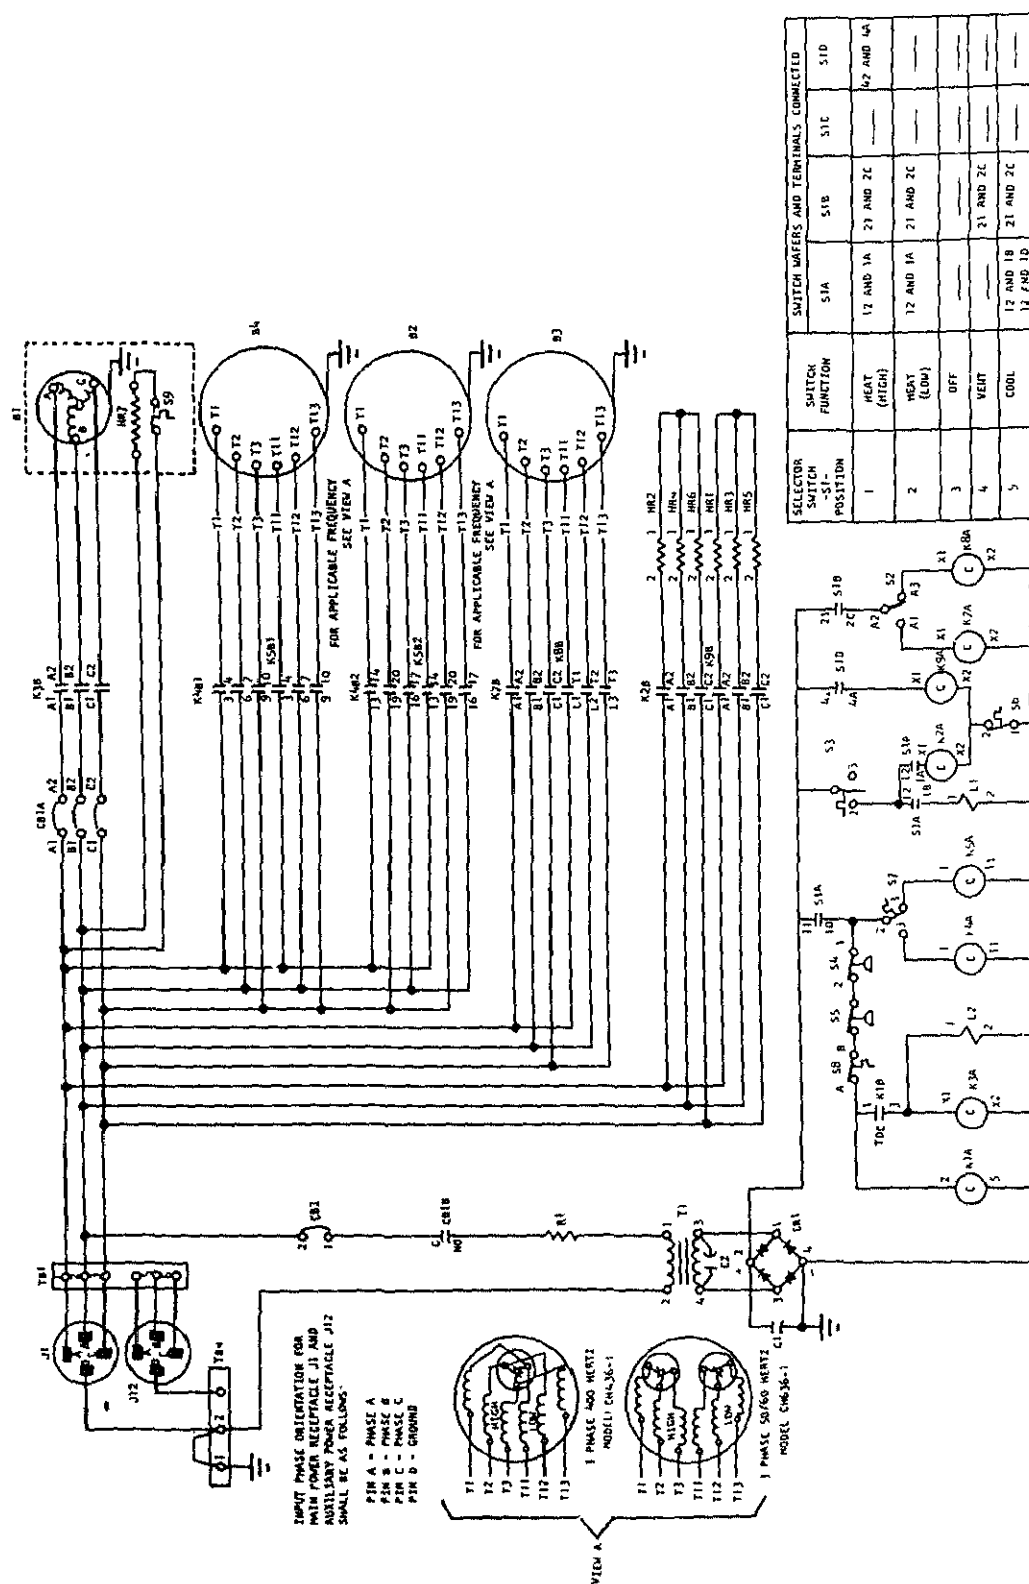
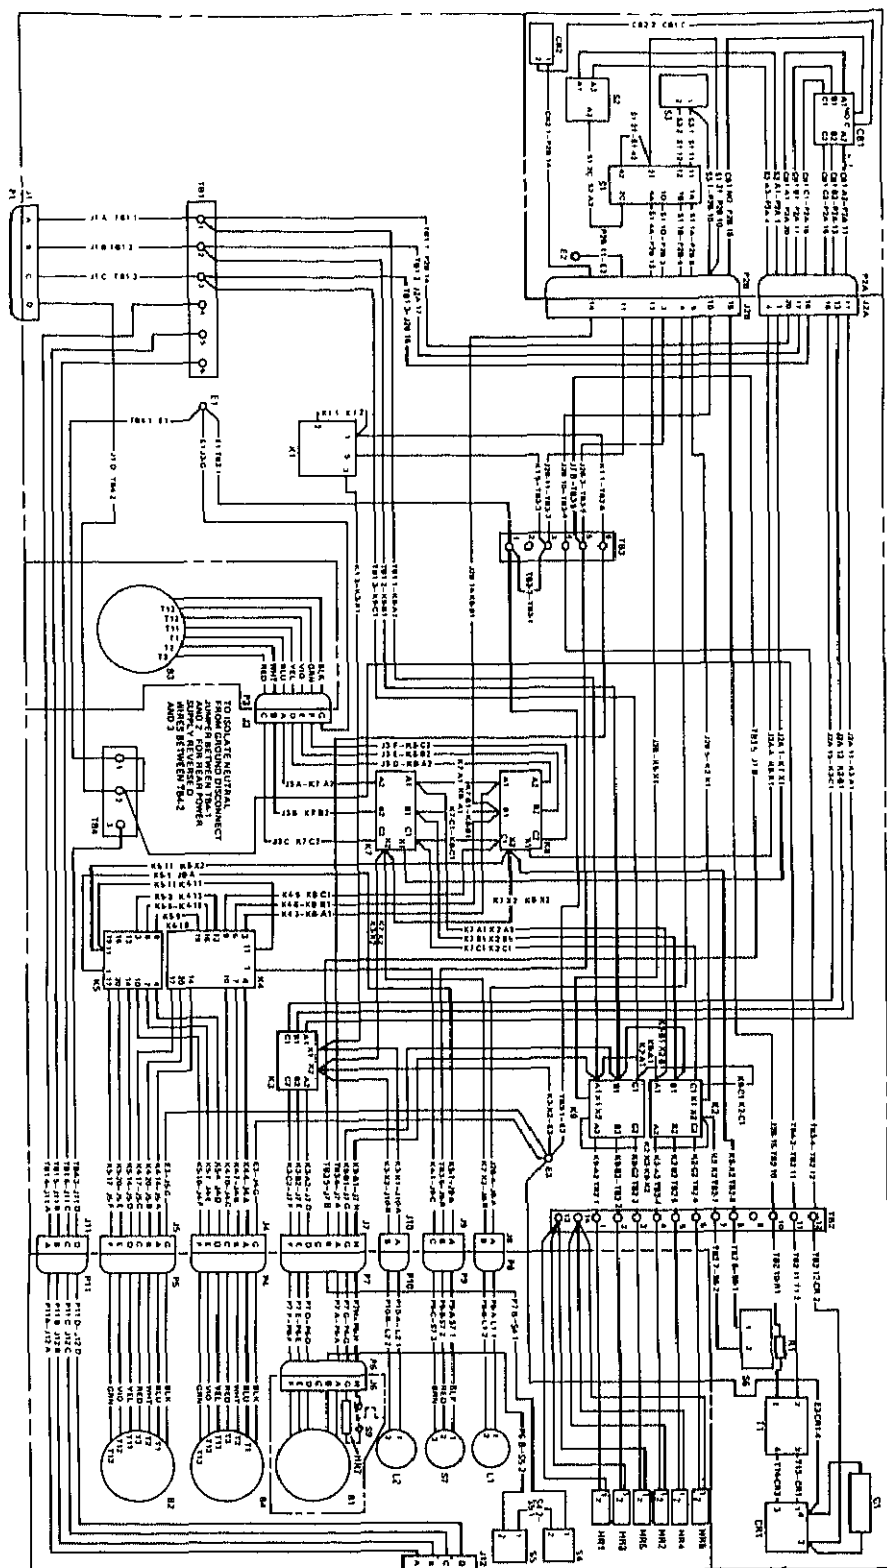

Figure 1-4. Control system schematic diagram
Figure 1-5. Wiring diagram
various controls available to the operator. Refer to figure 1-4 for the electrical schematic and figure 1-5 for the wiring diagram of the air conditioner electrical system.
Index, Figures 1-4 and 1-5.
## Index, Figures 1-4 and 1-5. (CONT)
(1) Connect the MS3106R-24-22S power input connector plug furnished with the air conditioner to a suitable electrical power cable. Connect the cable to the proper electrical power source and install the plug end of cable to either the main power receptacle or the alternate power receptacle. If alternate power receptacle J12 is used, refer to wiring diagram (figure 1-5) and change wire lead connection at TB1.